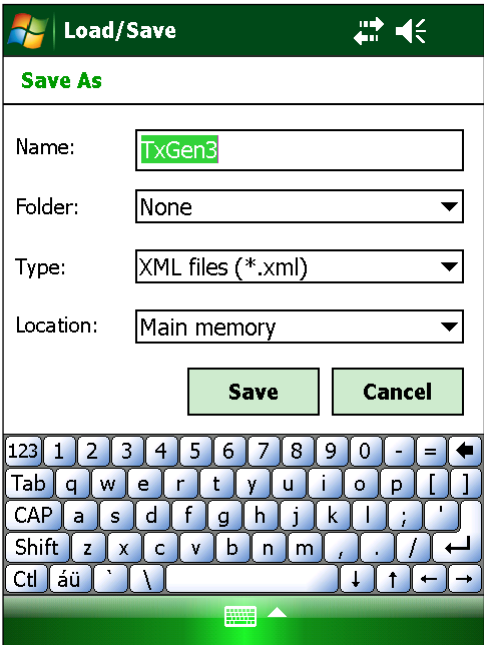

Figure 14: Save As New File Name
1. Tap on Save to create a new preset file. A Save As screen displays, as shown in Figure 14.